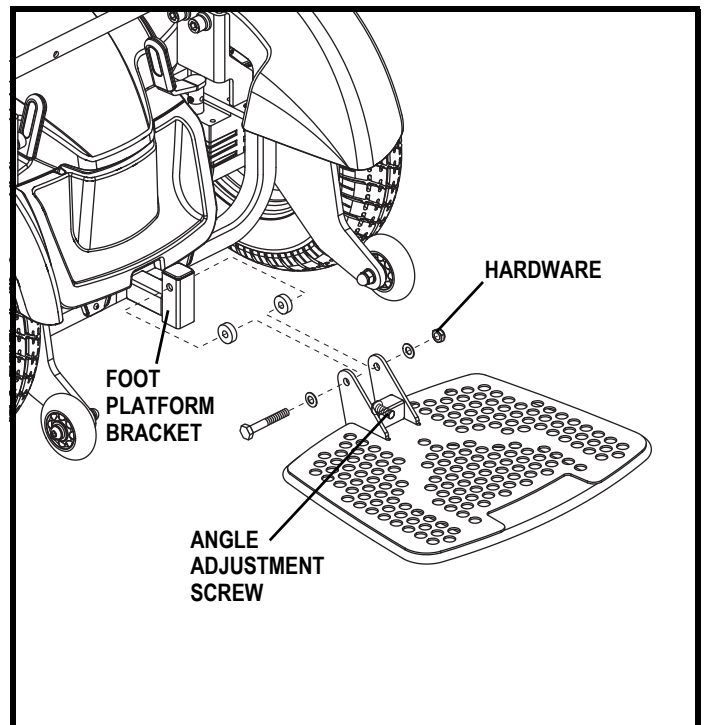

Figure 12. Foot Platform Adjustment
1. Flip up the foot platform and locate the angle adjustment screw. **See figure 12.**